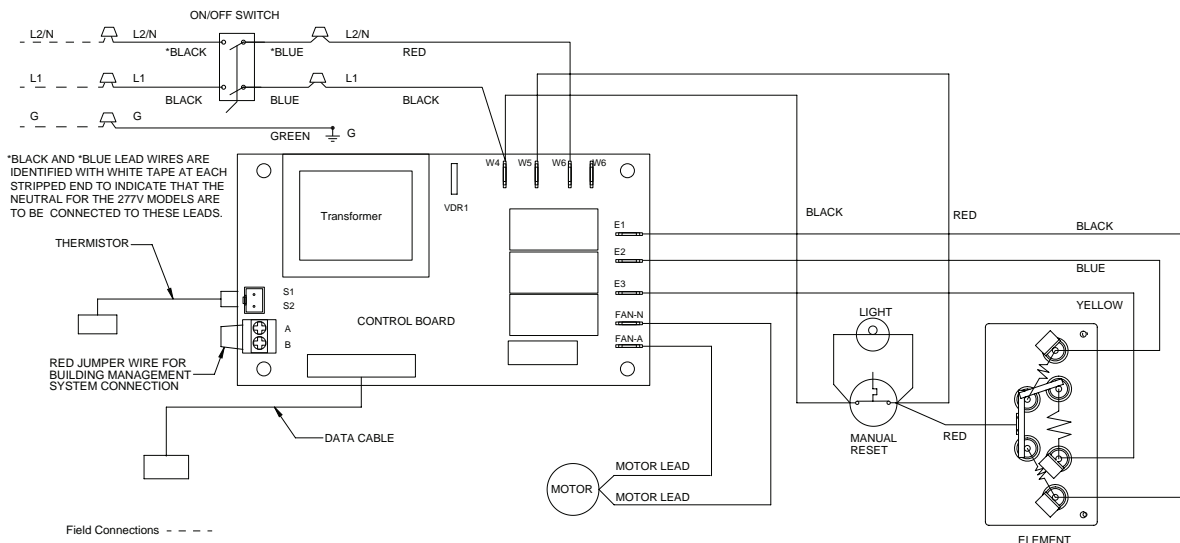

Figure 3 - Wiring Diagram
7. Insert power supply cable through cable clamp, allowing at least 6" (152 mm) of leads to extend inside the back box. Connect the blue lead wires of ON/OFF switch to the supply wire leads using wire connectors (see Figure 3, Wiring Diagram).
5. Insert power supply cable through cable clamp, allowing at least 6" (152 mm) of leads to extend inside the back box. Connect the blue lead wires of ON/OFF switch to the supply wire leads using wire connectors (see Figure 3, Wiring Diagram).
To utilize the BMS capabilities of this unit, remove the red jumper wire between terminals A and B on the control terminal board (see figure 3, wiring diagram). Connect two wires from a dry contact (no voltage) in the BMS system to terminals A and B.